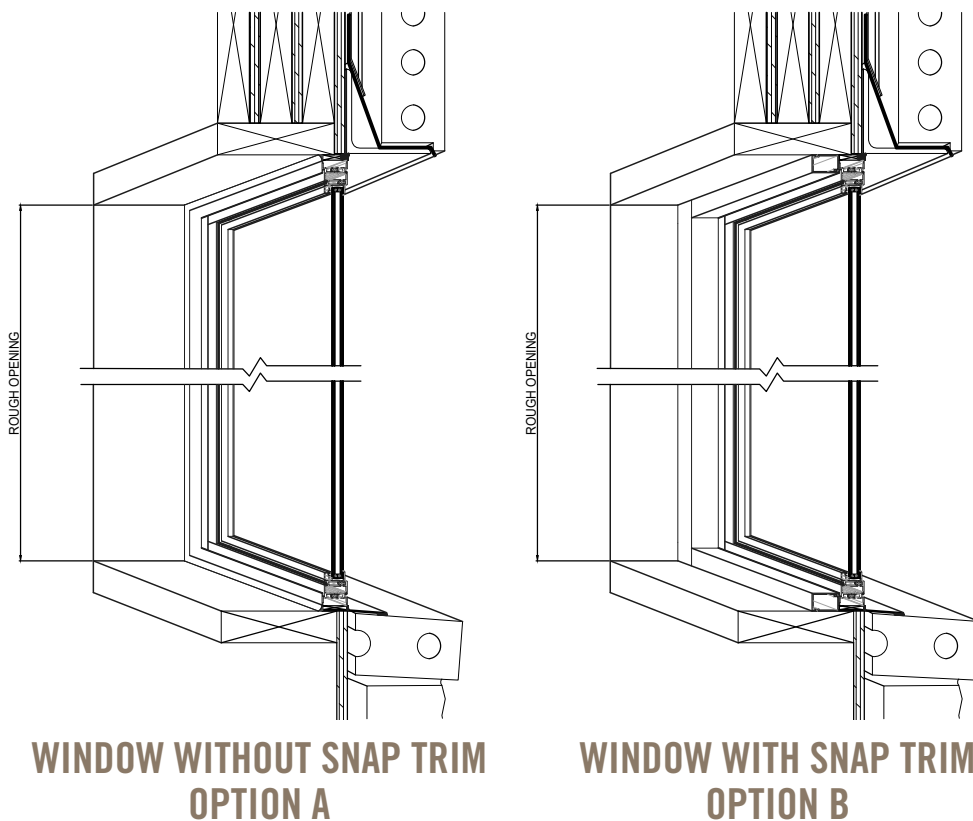

FIGURE 1.4
- It is recommended to use through wall flashing at the sill when possible. This reduces the possibility of penetration through caulking into the lower wall assembly. This also allows anchoring of the sill on windows over 36" in width. See *Figure 1.4*.